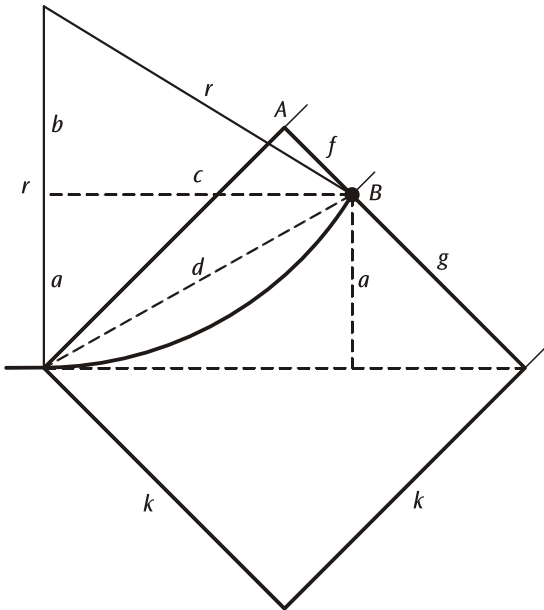

Fig. 4: Calculating radius of deflection  $r$  of electron beam exiting screen at a point B, a distance  $f$  from corner A
b) The radius of deflection  $r$  for the electron beam can be determined from the exit point B as shown in Fig. 4.